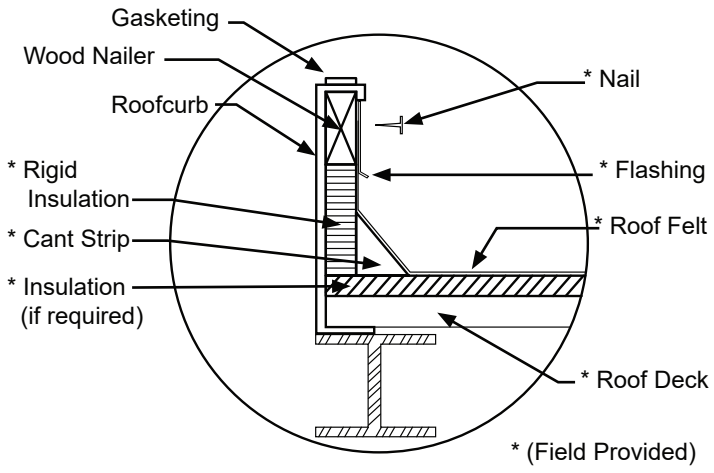

Fig. 4
10. The roof curb and unit must be sealed completely to prevent any water or air leakages. See Figure 4.
12. Insert the top edge of roofing and flashing material between wood nailer strip and roof curb flange. Nail material to wood nailer on roof curb as required. See Figures 4 and 5.